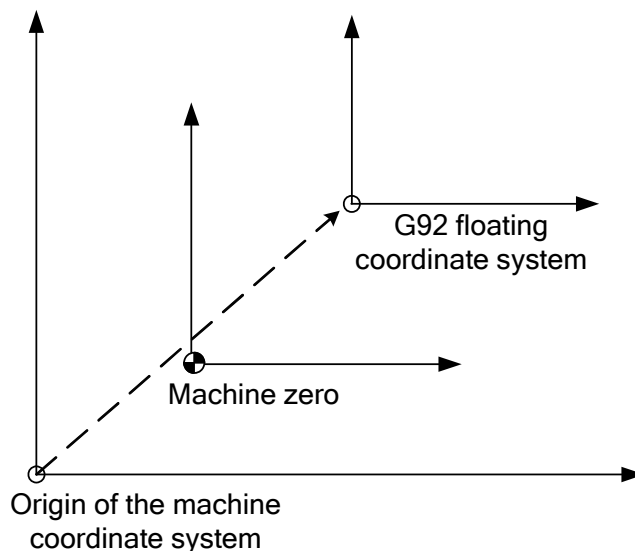

Fig. 3-2-11-1
1. As shown in Fig. 3-2-11-1, the corresponding origin of the G92 floating coordinate system is the value in machine coordinate system, which is not related to the workpiece coordinate system.